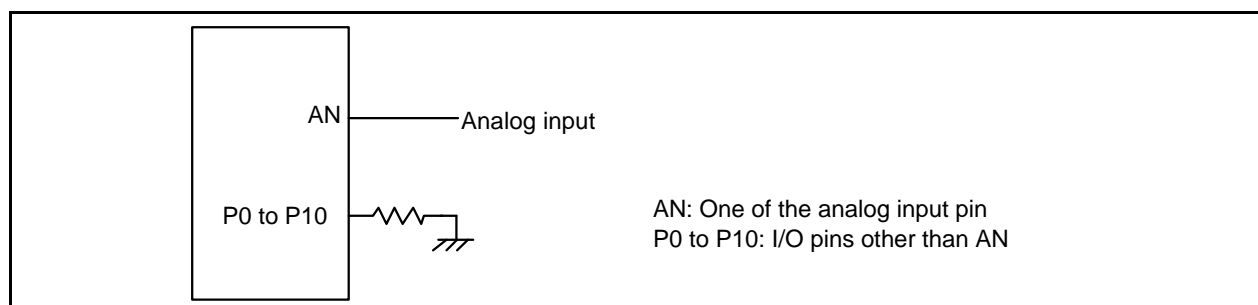

Figure 5.2 A/D Accuracy Measure Circuit
2. Flash memory rewrite disabled. Except for the analog input pin, set the pins to be measured as input ports and connect them to V_{SS} . See Figure 5.2 "A/D Accuracy Measure Circuit".
4. Flash memory rewrite disabled. Except for the analog input pin, set the pins to be measured as input ports and connect them to V_{SS} . See Figure 5.2 "A/D Accuracy Measure Circuit".